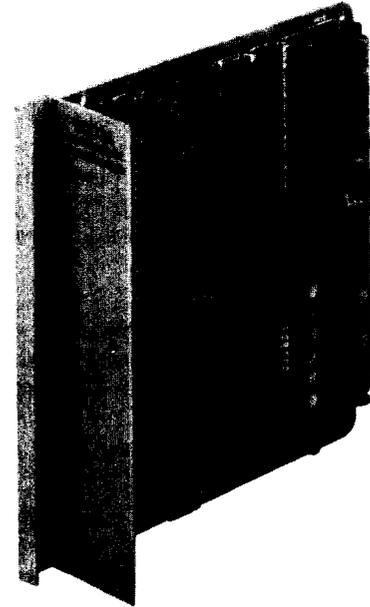

figure 1. 9003A Ringing Interrupter Control Module
1.01 The Tellabs 9003A Ringing Interrupter Control Module (figure 1), which must always be used in conjunction with an associated Tellabs 9132 Ringing Timer module, divides a ringing load into two groups of stations and alternately connects a ringing source to each group for 1 second, thus producing a distinctive 1-second-on, 1-second-off ringing signal.